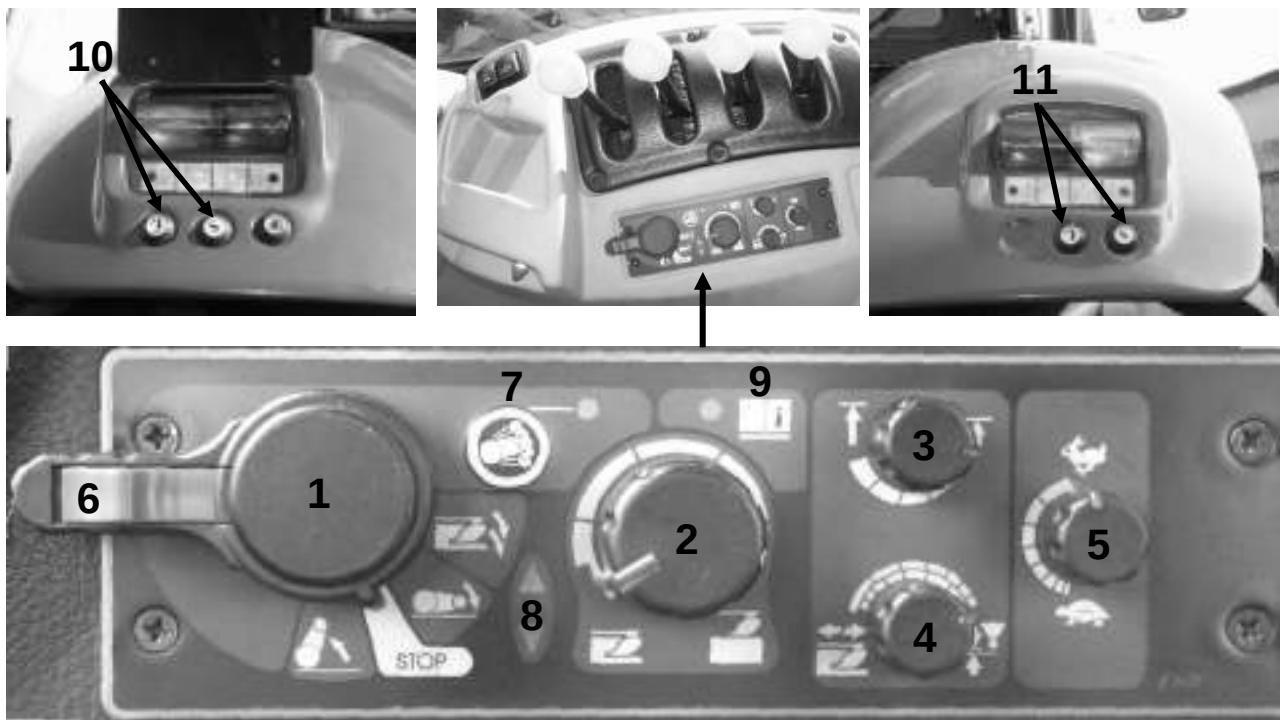

Figure 5-21 EHR electrohydraulic control system panel.
Control of the rear three point lift with the electrohydraulic system is with the aid of the control pulpit (Figure 5-21) located on the right side of the seat and additional arm lift and lower buttons on the rear of the mudguards on right and left sides of tractor (Figure 5-21, item 10) (they are used during linking machines and agricultural implements).
- using dial **4** (Figure 5-21) - depending on the type of fieldwork, determine the means of implement regulation (position, power or mixture);
ATTENTION: Do NOT use tractor in the event of hydraulic pump malfunction, if the light 8 (Figure 5-21) is not extinguished after lifting implement.
- lever **1** (Figure 5-21) set in position "lifting" (then implement is raised to the extreme upper setting) and button **6** to lock implement in transport position;